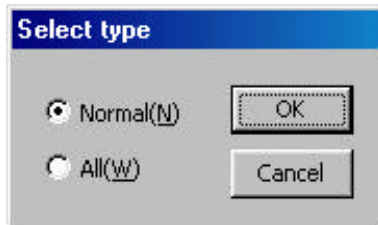

Figure 7.40 “Select type” dialog box
Click “*Upload (U)*” in the “Index Comp” menu to display the “Select type” dialog box (see Figure 7.40).